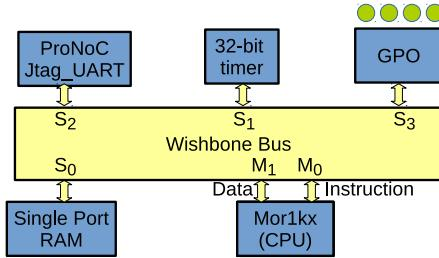

Figure 5.1: The schematic of desired SoC in this tutorial.
Schematic Figure 5.1 illustrates the desired hardware architecture in this tutorial. This architecture consists of:
7. A Clock source (not shown in Figure 5.1).
2. In parameter setting set M (master interfaces number) as 2 and S (slave interfaces number) as 4. These values are obtained from Figure 5.1. You can change them later if you want to add/remove any IPs.